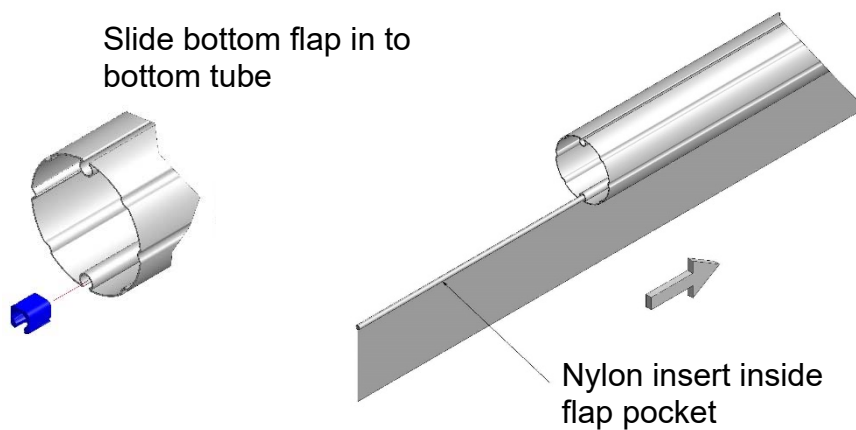

Figure 17, Flap Attached to Bottom Tube
14. Slide nylon insert (L1) into the pocket of the flap (C1) and slide flap into bottom flute, Figure 17.